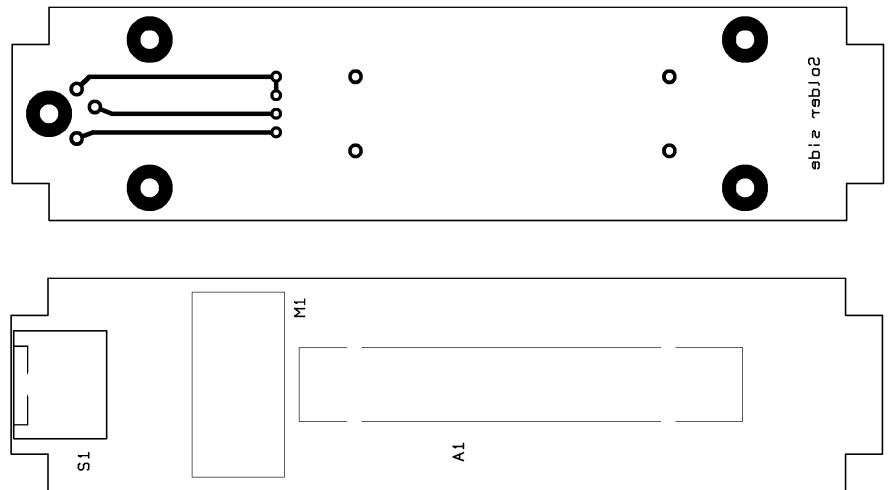

Figure 3. PCB artwork for receiver board (single-sided).
Receiver board (Figure 3)
- Figure 3** receiver board, single-sided